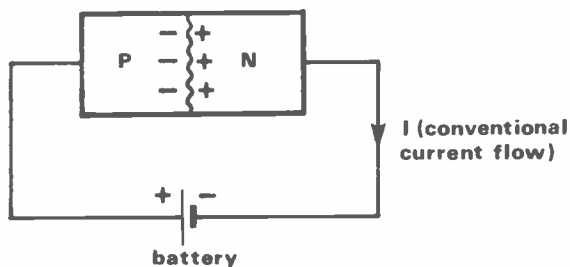

Fig 2 A forward-biased junction diode
across the diode as in *Figure 2*, electrons will be attracted from the P-type material by the positive pole of the battery and forced round the circuit into the N-type material, setting up a conventional current flow (I).